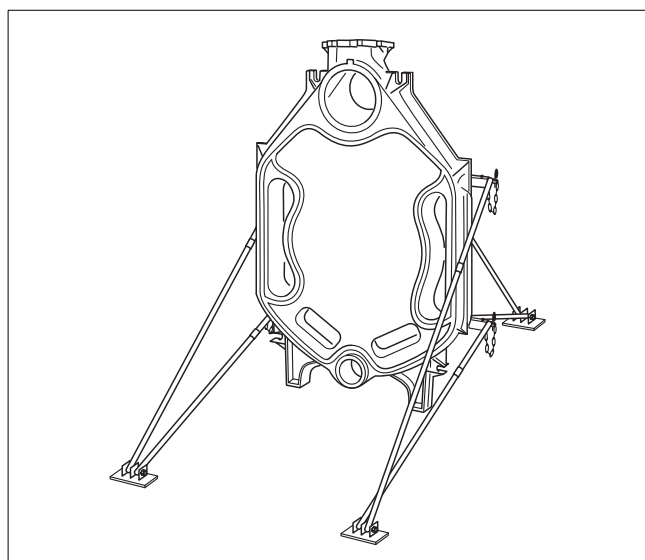
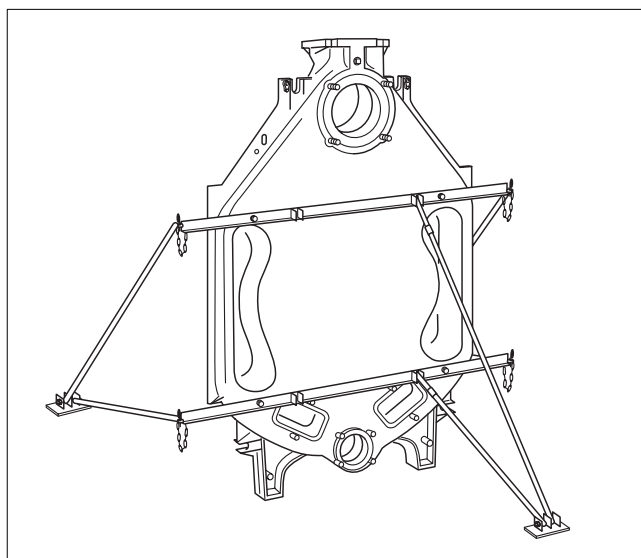

Fig. 6 Rear section with assembly frame fitted
Fig. 8 Fitting assembly frame
For erecting boiler sections safely, **Buderus** can supply on request an assembly frame (an item of additional equipment) which is bolted solidly to the rear section of the boiler and stops the sections from falling over (Fig. 6).
- Erect the rear section and fit the assembly frame to prevent it from falling over (see Fig. 8, Fig. 6 and separate fitting instructions for the assembly frame).